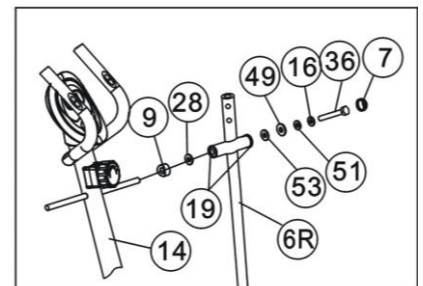

Figure 5
Attach two Arc spacers (9) and Wave washer (28) to the end of horizontal axle of Front upright frame (14). Insert right Pulling pole (6) to the end of horizontal axle of Front upright frame (14) and secure it with Plastic flat washer (53),  $\Phi$ 8 big washer (49),  $\Phi$ 8 spring washer (51), M8 Special washer (16), and Bolt M8X20 (36). Finally, assemble the Nut cap (7) to the Bolt M8X20 (36), then the Pulling pole (6) can move freely. (Refer figure 5)